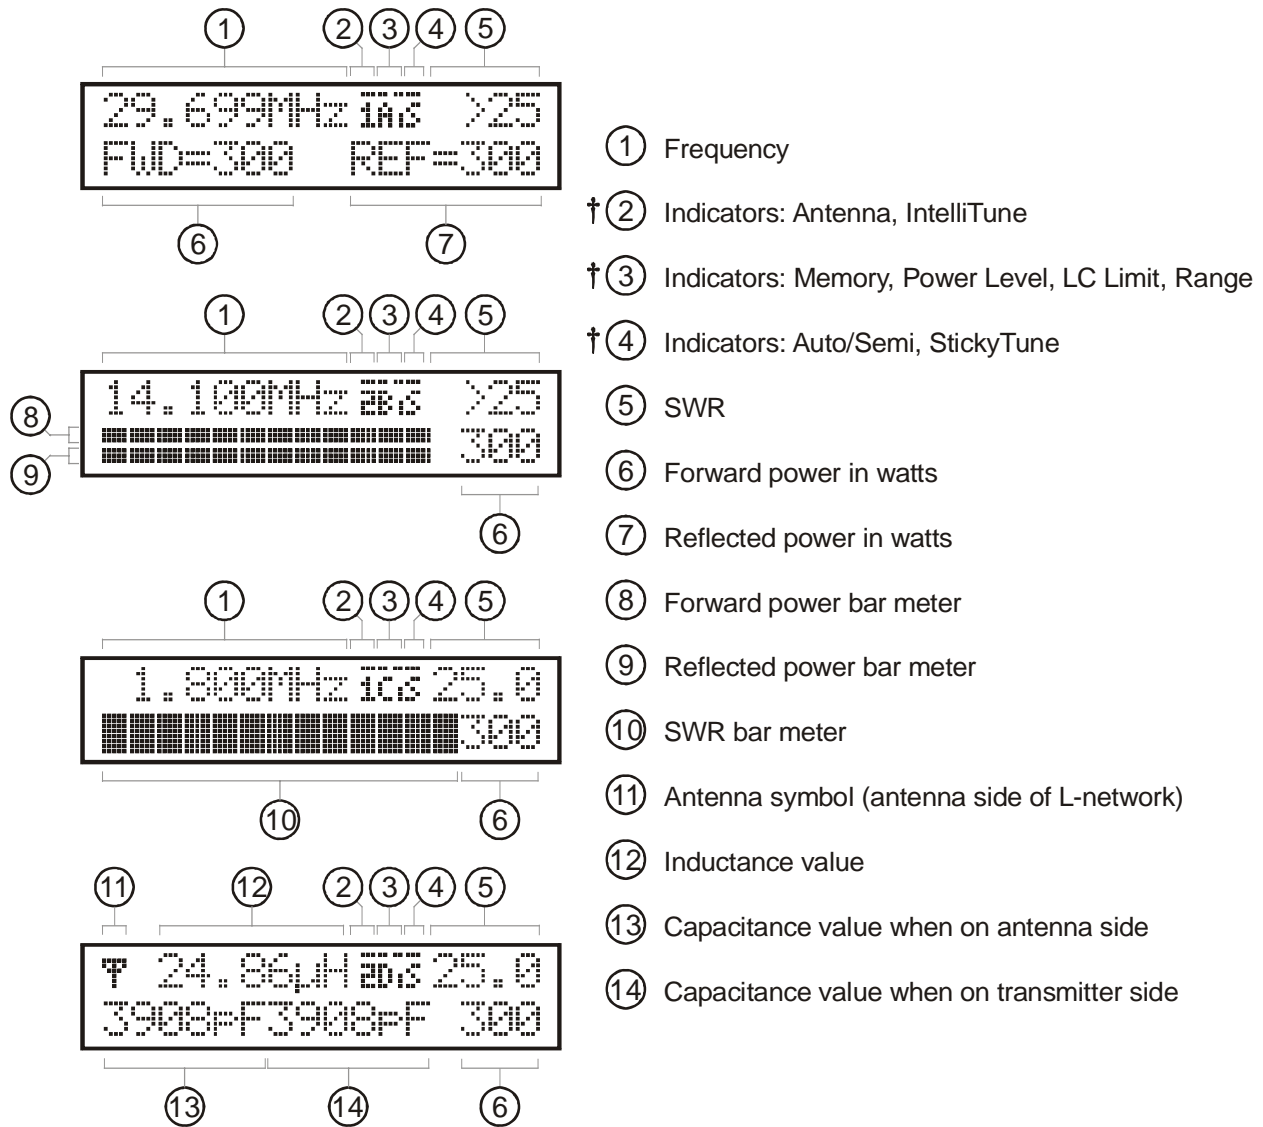
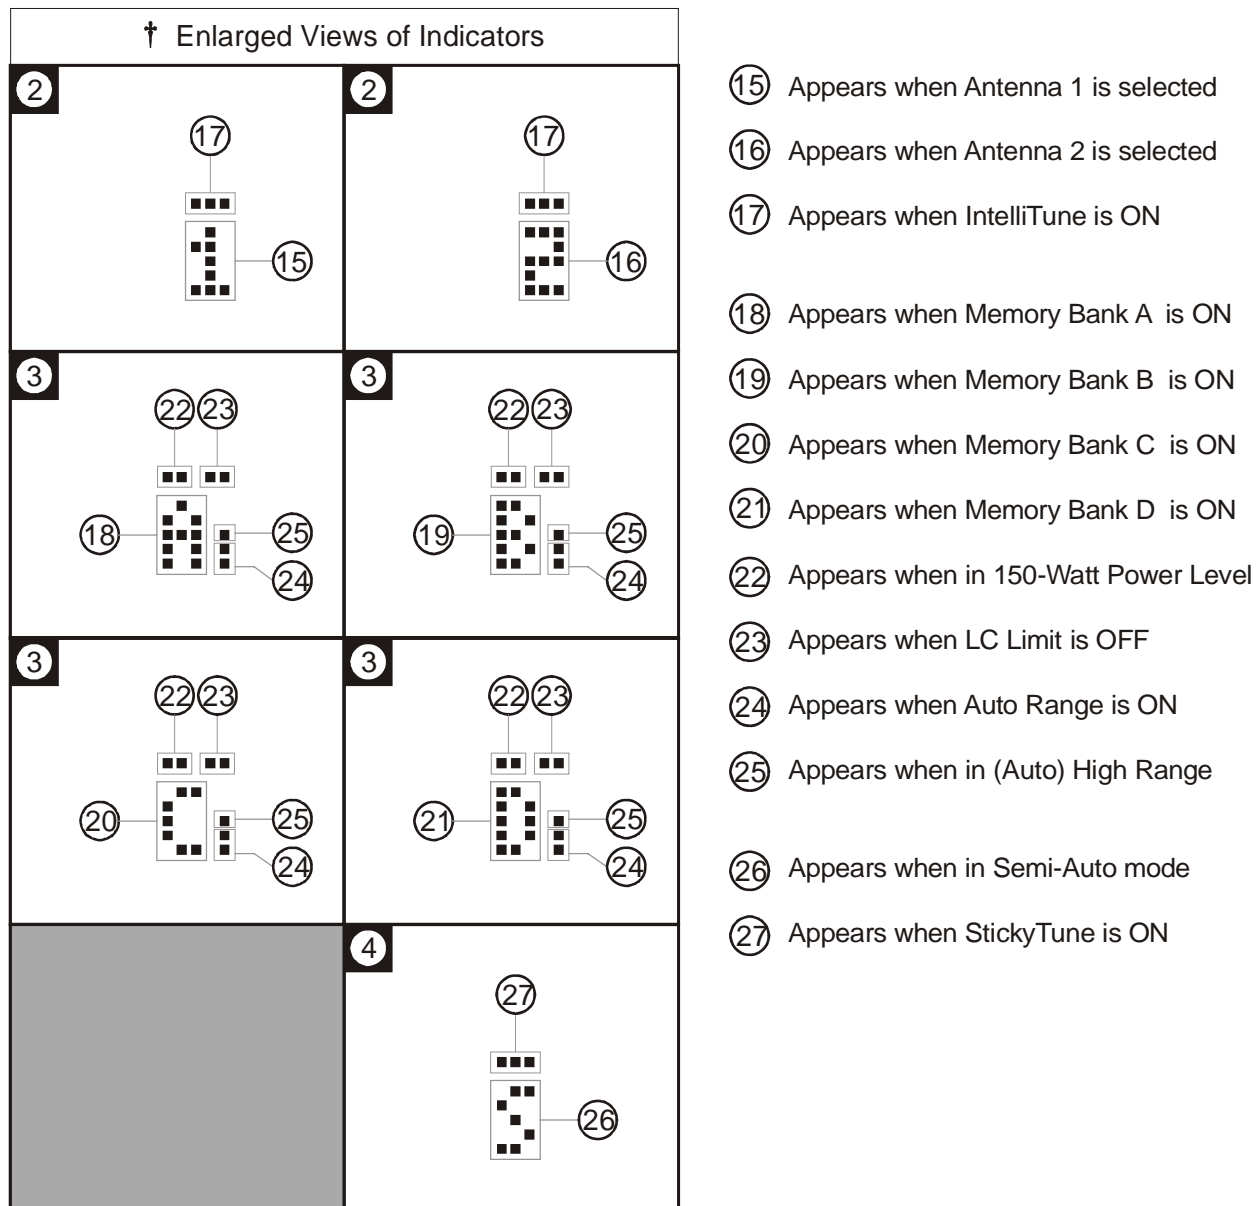

Figure 11. Main Mode Menu Display.
Figure 12. Tuner Indicators.
- LCD Display:** A 2-line by 16-character alphanumeric display. It displays the tuner’s various menus and status. The display contrast can be adjusted by the [LCD] control on the front panel. Below the display are the SWR and power bar meter scales. Refer to Figures 11 and 12 for descriptions of the various displayed information.
The meter can be set to low, high, or auto range. Auto range automatically sets the meter scales according to the input RF power to the tuner. Forward power greater than 30 watts or reflected power greater than six watts automatically sets the meter to the high power range. Forward power less than 25 watts and reflected power less than four watts automatically set the meter to the low power range. To cycle the meter range among low, high, and auto range, press the [TUNE] and [L-DN] buttons simultaneously. The forward needle will read “300” for high range, “30” for low range, and “100” for auto range until the buttons are released. When auto range is enabled, a two-dot vertical segment (low range) or a three-dot vertical segment (high range) appears in the lower right corner of the Range indicator on the main LCD screen. One beep indicates high range is selected; two beeps indicate low range; three beeps indicate auto range. Refer to Figures 11 and 12 for the on-screen Range indicator.
The main mode menus show various tuner settings and status. There are four main mode menus arranged in a “wrap-around” structure. When powered on, tuner operation starts with the main menu that was last used. Within each main menu, press the [MODE] button briefly to view the next main menu. Press and hold the [MODE] button for two seconds to enter the setup mode (see below). Various tuner indicators are shown on all four main menus: Antenna 1/2, IntelliTune™, Memory, Power Level, LC Limit, Meter Range, Auto/Semi, and StickyTune™. Refer to Figures 11 and 12 for details on the displayed information.
The power meter can be set to auto range. Auto range automatically sets the meter scale according to the input RF power to the tuner. Forward power greater than 30 watts or reflected power greater than six watts automatically sets the meter to the high power range. Forward power less than 25 watts and reflected power less than four watts automatically set the meter to the low power range. When auto range is enabled, a two-dot vertical segment appears on the on-screen tuner indicator. Refer to Figures 11 and 12 for the on-screen Range indicator.
Various tuner indicators are shown on the main menus to indicate tuner status. Refer to Figure 11 for locations of these indicators. The number enclosed within () is the item number of Figure 12.
Allows you to select the meter scale range. In the 30 watts (low) range, the forward full scale is 30 watts and the reflected full scale is 6 watts (divide the meter reading by 10). In the 300 watts (high) range, the forward full scale is 300 watts and the reflected full scale is 60 watts. Auto range automatically sets the meter scales according to the input RF power to the tuner. Forward power greater than 30 watts or reflected power greater than six watts automatically sets the meter to the high power range. Forward power less than 25 watts and reflected power less than four watts automatically set the meter to the low power range. Refer to Figures 11 and 12 for the on-screen Meter Range indicators. Default is 300 watts range.
for Antenna 1 and Antenna 2 (settings for balanced line or single-wire antenna are stored as Antenna 1). This provides memory for up to eight different antennas. Refer to Figures 11 and 12 for the on-screen Memory indicator. Defaults are memory banks 1A and 2A ON.
Turns the *IntelliTune*[™] tuning algorithm on and off. When the tuner cannot find an appropriate setting in its memory, it begins its calculation function. It measures the complex impedance of the antenna (load) at the transmitting frequency, then it calculates the L/C components needed for a match. Then it fine-tunes the component values. If for any reason the tuner cannot calculate the load impedance, it proceeds to yet another method of calculation. If for any reason, this function can be turned off. Refer to Figures 11 and 12 for the on-screen *IntelliTune*[™] indicator. Default is ON.
The upper limits of inductance (L) and capacitance (C) are factory-limited according to frequency and maximum power rating; i.e., higher frequencies need less inductance and less capacitance when the L-network is properly tuned. Pressing [C-UP] and/or [L-UP] allows capacitance and inductance to be increased only to these limits. When a selected capacitance or inductance is higher than its allowed limit, and the frequency is changed, that selection is automatically reduced to the value of its limit. These limits are used to prevent matching of extreme load impedance outside the tuner's specification, which may result in excess voltage and/or current across the tuner's components. This setting is not stored in non-volatile memory and reverts back to the default when the tuner power is turned off. Refer to Figures 11 and 12 for the on-screen LC Limit indicator. Default is ON.